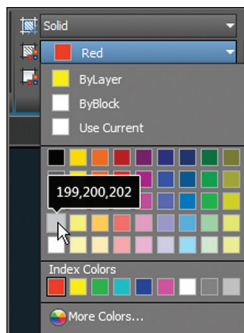

FIGURE 8.4 Selecting a color override for the hatch object
5. Open the Hatch Color drop-down in the Properties panel, and select light gray with color values of 199, 200, 202 in the red, green, and blue channels, respectively (see Figure 8.4).